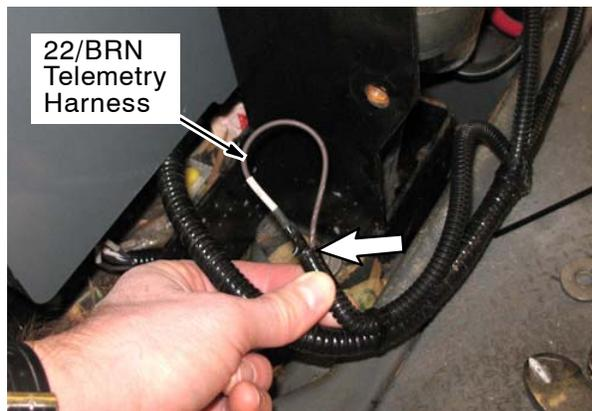

Fig. 15
- Machines without ec-H2O system:** Insert the wire (22/BRN) connector labeled “ec-H2O Harness”) into the telemetry harness (16) conduit. Use electrical tape to secure the connector inside the conduit. (Fig. 15)